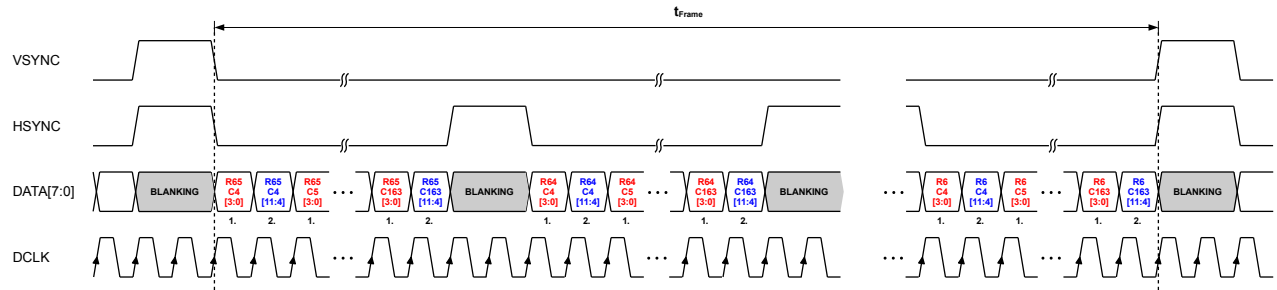

Figure 32: **lsb/msb** split mode
- **l sb/msb split mode:** Transfers 12 bit pixel data with LSByte leading and MSByte trailing with 2x DCLK. Refer to Table 15 and Figure 32.